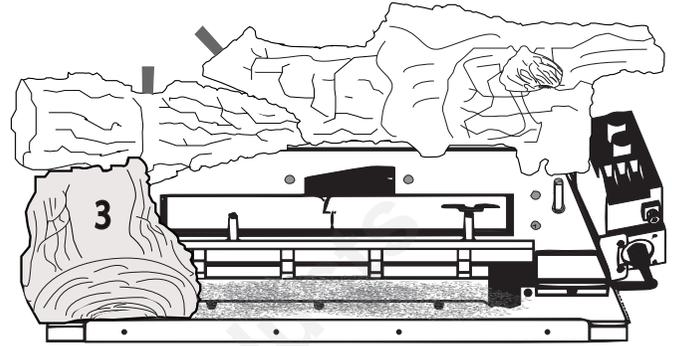

Figure 5.22 - Log #3 Placement
4. Place Log #3 in the lower left area of the burner assembly with the cut out wrapping around the grate and the front of the log up against the front lip of the burner assembly. See Figure 5.22.